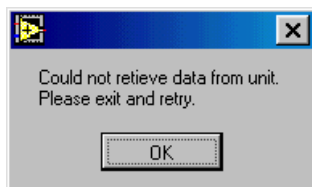

Figure 6-19. Could Not Retrieve Event Data Message Box
- **OK** — Click to open the Event Report dialog box and display the selected event data. If there is not sufficient event data to display the report, a message box displays this message (Figure 6-19):